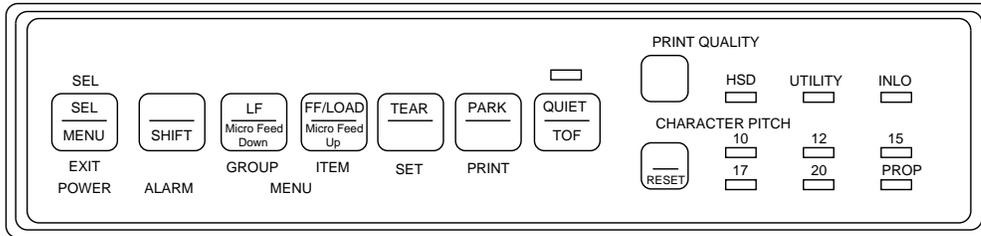

Figure 9-1. Model 602 ROP Control Panel
1. Ensure that the ROP is deselected (**SEL** light is off). See Figure 9-1. If the ROP is not deselected, press the **SEL** button.